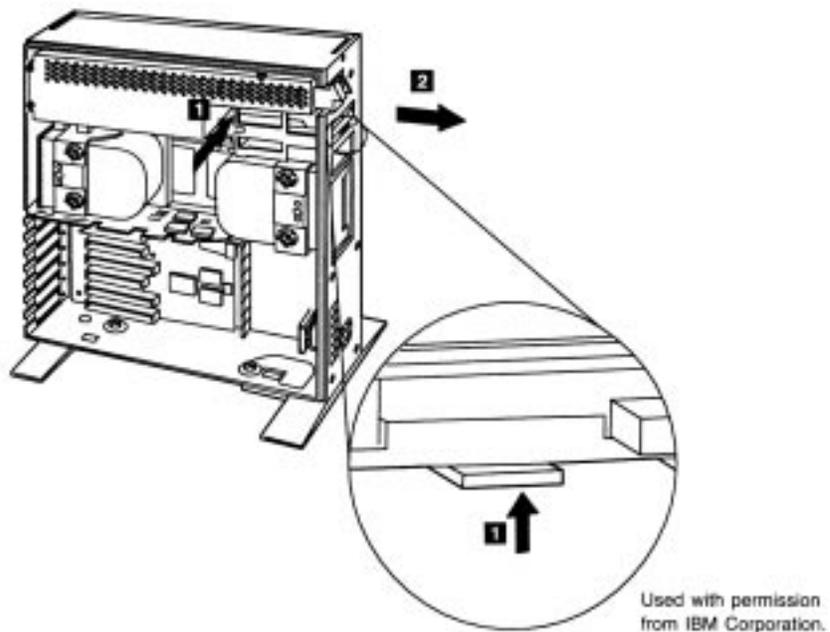

Fig. 3.41
2. Slide the drive out the front of the unit (see fig. 3.41).